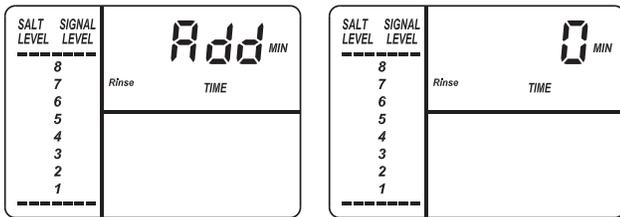

Figure 34
**BACKWASH & FAST RINSE TIMES:** If you experience salty tasting water after regeneration, you may need to increase the backwash and fast rinse times. The cycle times during regenerations are determined by the softener's electronic controller. However, you may increase the backwash and fast rinse times, in 1 minute increments. If you wish to increase the backwash time, use the  $\Delta$  UP button to add up to 15 minutes to the backwash time. Then press SELECT to display the alternating screens shown in Figure 34.